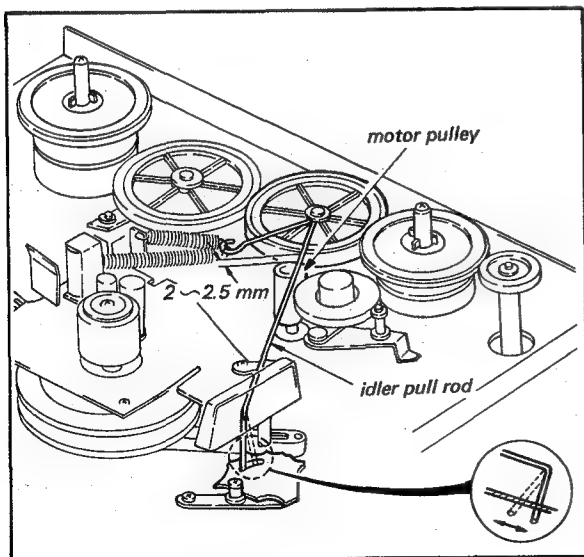

Fig. 4-21. Brake timing adjustment
2. Bend the Take-Up Cam Push Rod a with a pair of pliers as needed to obtain the correct spacing. See Fig. 4-21.